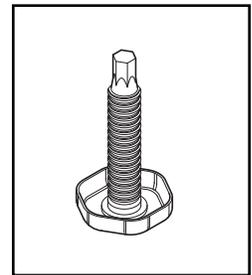

Fig. 01 Leveling Leg
- Position your refrigerated drawer. Turn front leveling legs clockwise (Fig. 01) to lower the front leveling leg. Raise the front of the appliance until it is stable and level.